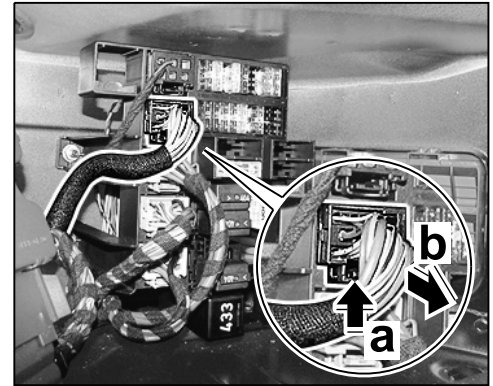

Figure 6
- 1.11.1 Release electric plug connection ⇒ *Figure 6 -arrow a-* and pull it off ⇒ *Figure 6 -arrow b-*.